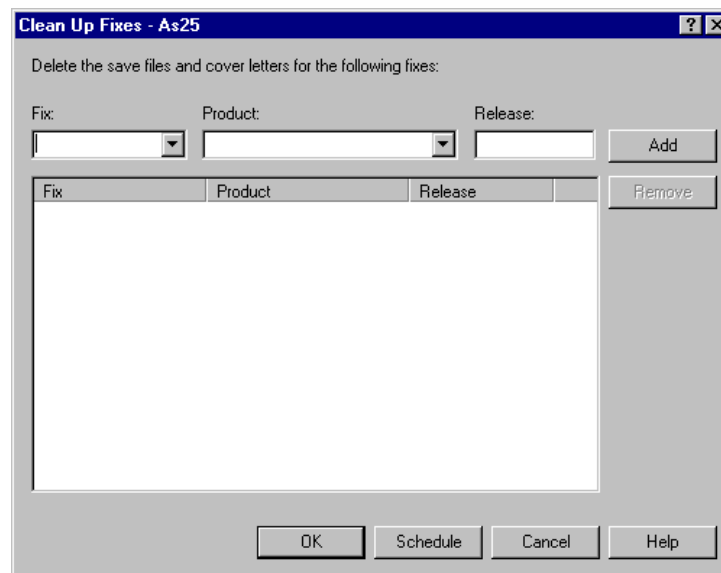

Figure 104. Clean Up Fixes window
1. Under **Endpoint Systems**, right-click on the AS/400 system that you plan to clean up. Select **Fixes** and click on **Clean Up**. You are presented with the Clean Up Fixes window, which is shown in Figure 104.